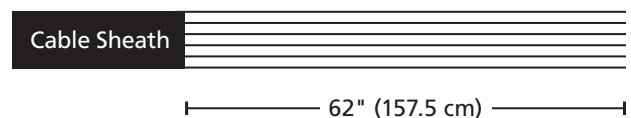

Figure 7
1. Mark the cable to have a minimum 62" (157.5 cm) opening (Figure 7). This allows for one loop in the enclosure and one service loop in the splice tray, with the fiber landing at the farthest splice point. To add an additional service loop in the splice tray, add 18" (45.7 cm) to the prep length.